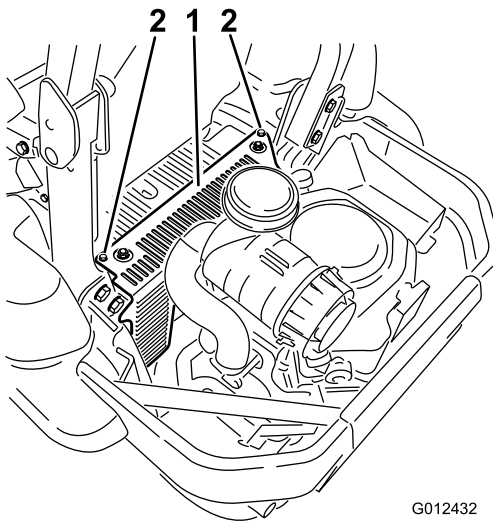

Figure 53
3. Remove the hydraulic unit shroud and the 2 bolts attached to it (Figure 53). This gives you access to the front spark plug.
Install the hydraulic unit shroud (Figure 53).